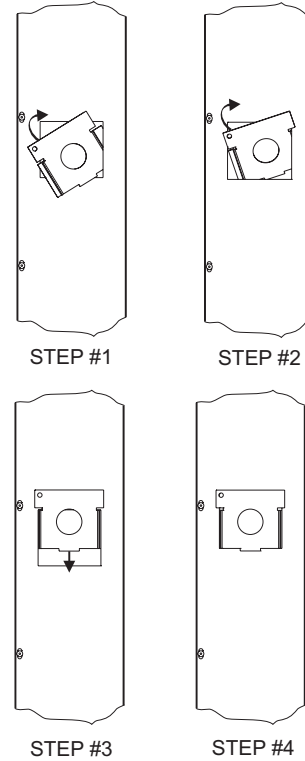

**Figure 8**
7. Arrange with your local gas company or licensed contractor to have a gas supply line connected to the inlet of the stainless steel flex tube assembly. The gas supply must have a shutoff valve that is close to the post in case of emergency and must be shutoff when the grill is not in use. See Figure 8.